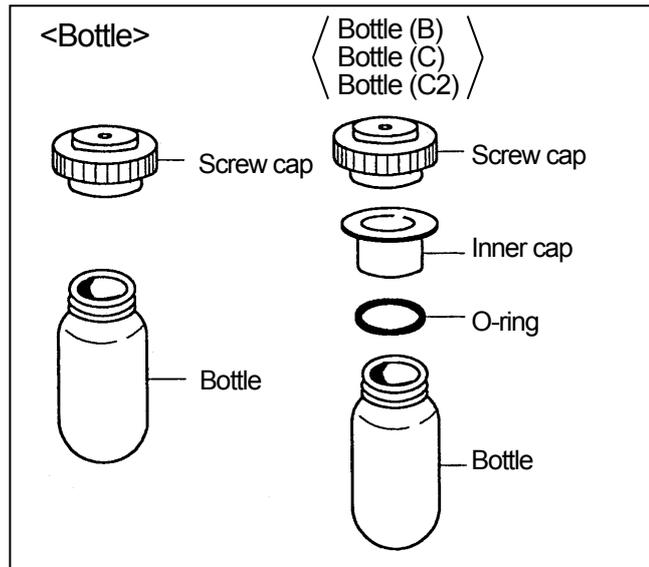

Fig. 2-2 Bottles
A container of the screw cap type is called a bottle. Bottles with inner caps are for high-speed rotation. Bottles with Plastic (polyacetal) screw caps are classified as bottles (B) and those with metal (aluminum alloy) caps are classified as bottles (C). (See Fig.2-2 and appendix 5.)